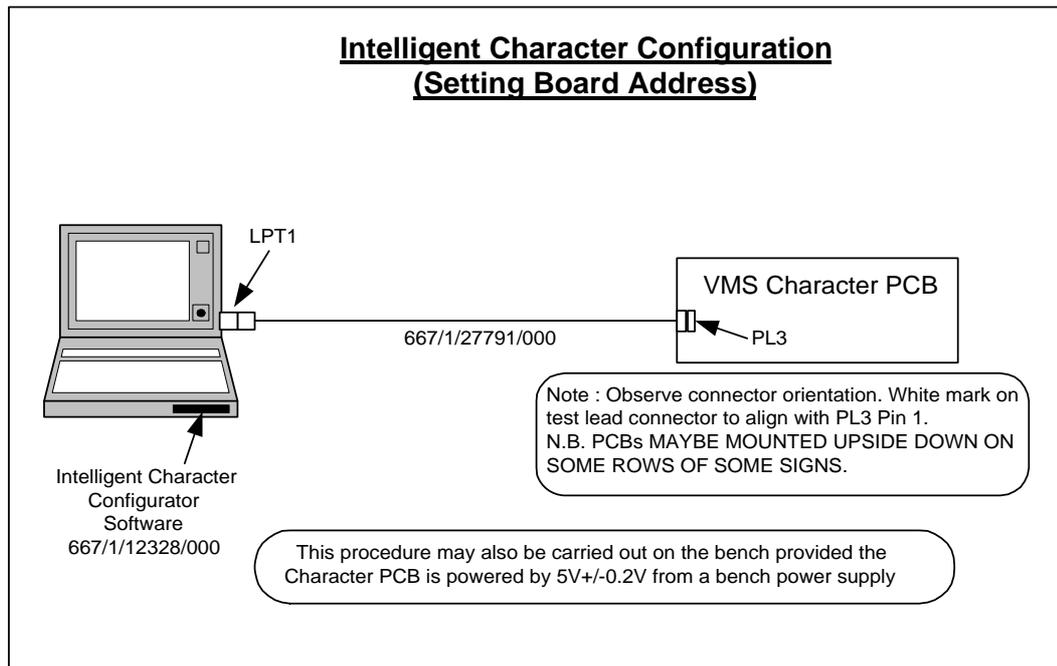

Figure 12 - Configure New Character PCB
- Connect the PC to the replacement character, as shown in Figure 12.